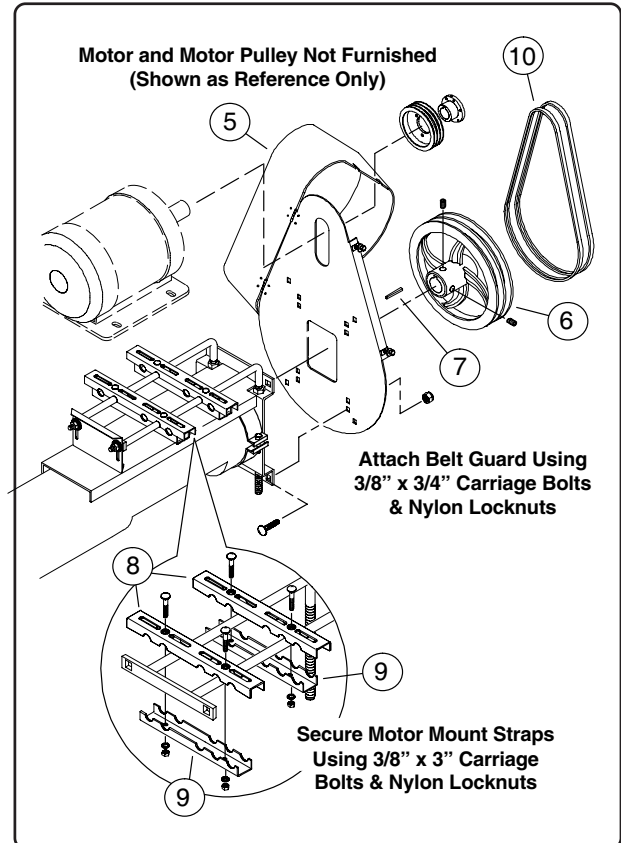

Fig. 10
7. Attach the belt guard (Ref. 5) to the head plate using four 3/8" x 1" carriage bolts and nylon locknuts as shown in Fig. 10.
8. Insert the 10 mm x 76 mm (3/8" x 3") key (Ref. 7 in Fig. 10) into the keyway on the end of the head shaft. Align the key with the keyway in the 38.1 cm (15") pulley and slide the pulley onto the shaft (slide the pulley on until it is as close to the head bearing as possible without contacting the bearing). Tighten the pulley setscrews to secure it to the shaft.
9. Position the motor mount straps (Ref. 8) and clips (Ref. 9) onto the rods as shown in Fig. 10. Secure them together using two 3/8" x 3" carriage bolts, lock washers and non-lock nuts (do not tighten completely, they will be properly positioned when mounting the electric motor).